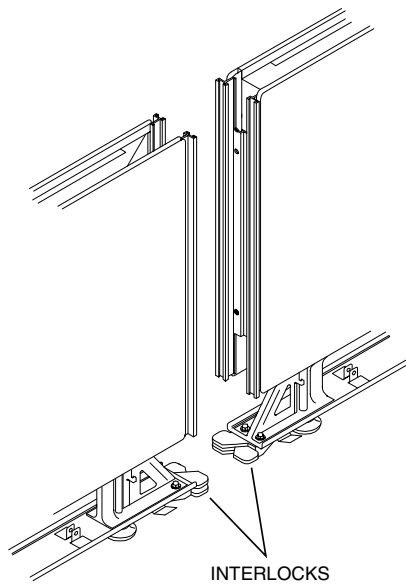

FIG. 1
1. To attach one panel to the next, bring the panels into position, making sure the interlocks are aligned (Figure 1). Slide the hinge connectors down the grooves provided, making sure the light shields are inside the panel (Figure 2).